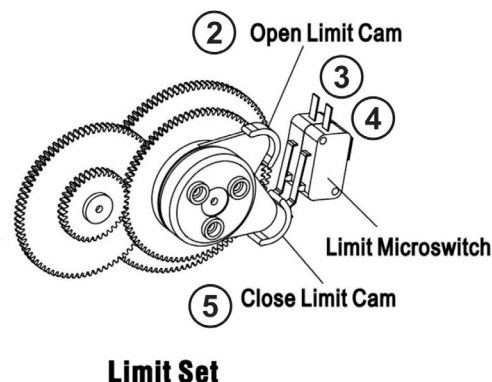

Fig 15
- 7.4 Rotate the Open Limit (Lower) Cam (Item 2 Fig.15) by hand, in the direction of the Open Limit (Lower) Switch, until you hear the switch “click”. Once the Open Limit Switch “clicks”, continue to rotate the cam a further 10 degrees or so towards the switch.
- 8.3 Rotate the Close Limit (Upper) Cam (Item 5, Fig 15) by hand, in the direction of the Close Limit (Upper) Switch, until you hear the switch “click”. Once the Open Limit Switch “clicks”, continue to rotate the Cam a further 10 degrees or so towards the switch.